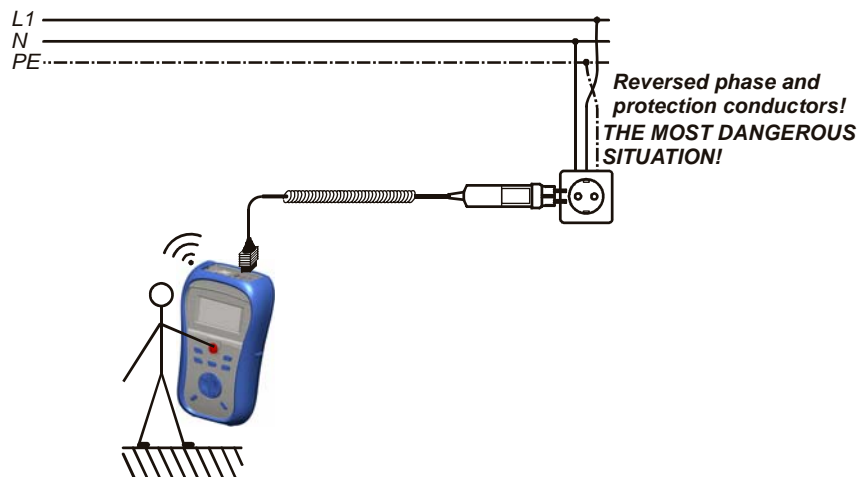

Figure 5.18: Reversed L and PE conductors (application of plug commander)
- ❑ **Connect** test leads to the to the item to be tested (see *figures 5.18* and *5.19*).